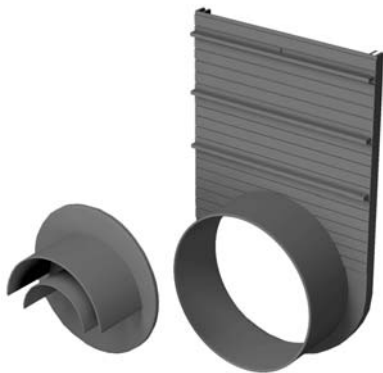

Figure 5.2
- Trim the end cap pipe outlet to match the desired pipe. See Fig. 5.2